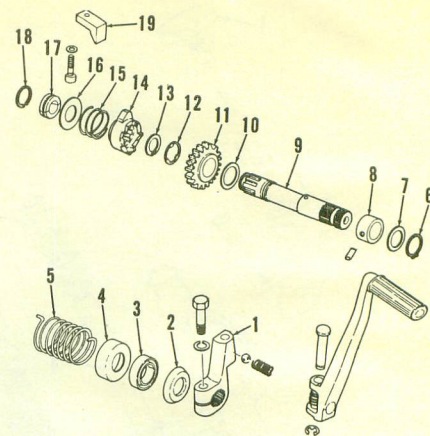

Fig. Y8-20—Exploded view of the kick starter assembly. Gear (11) meshes with first gear (19—Fig. Y8-22).
detent (13) and retainer plate (15). Remove kick starter spring guide (4—Fig. Y8-20) and return spring (5). Turn the crankcase assembly upside down, remove the attaching screws and carefully separate the crankcase halves.